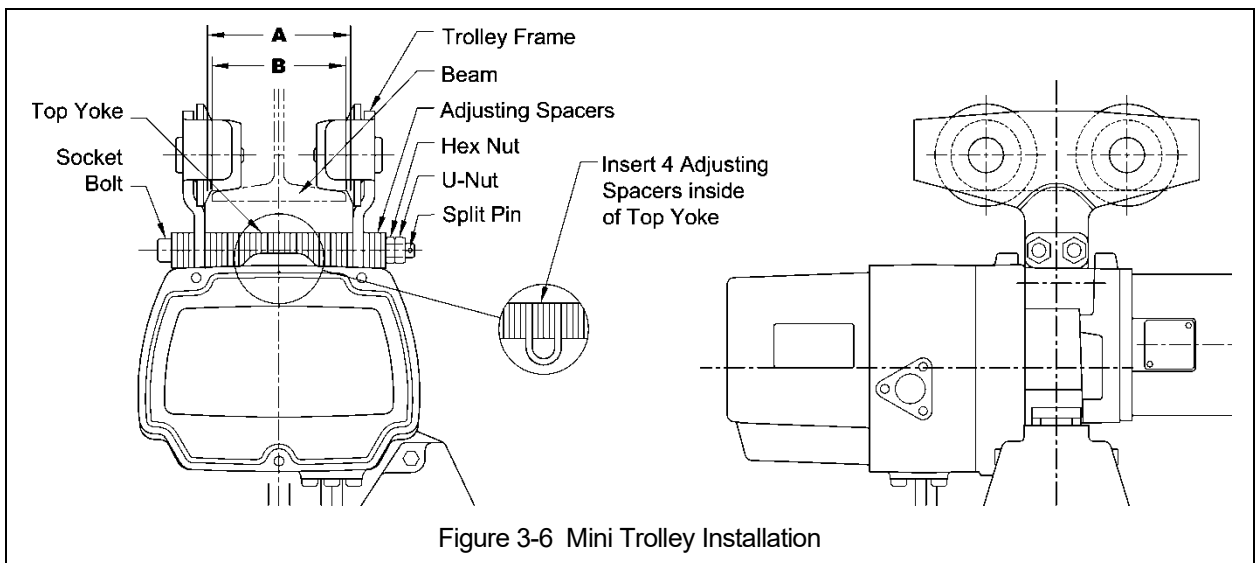

Figure 3-6 Mini Trolley Installation
3.8.1 Mini Trolley - Follow instructions below to install the trolley. Refer to Figure 3-6.
- 3) Refer to Figure 3-6 and assemble the Trolley Frames, Adjusting Spacers and Socket Bolts onto the Top Yoke. Install and hand tighten the Hex Nuts on the Socket Bolts. Verify that dimension "A" is approximately 0.12 - 0.16 in (3-4mm) greater than "B" (flange width). If "A" does not fall within the specified range, move Adjusting Spacers from the inside of the Trolley Frame to the outside or from the outside to the inside as necessary to obtain the proper "A" dimension, irrespective of the numbers in Table 3-3.
- 5) Check for contact between all four Trolley Wheels and the rail surface. Shift the Trolley Frame until all Trolley Wheels rest on the rail surface. Tighten the Hex Nuts and install the two (2) U-Nuts onto the Socket Bolts tighten against the Hex Nuts. Install the Split Pins onto the Socket Bolts and bend securely.